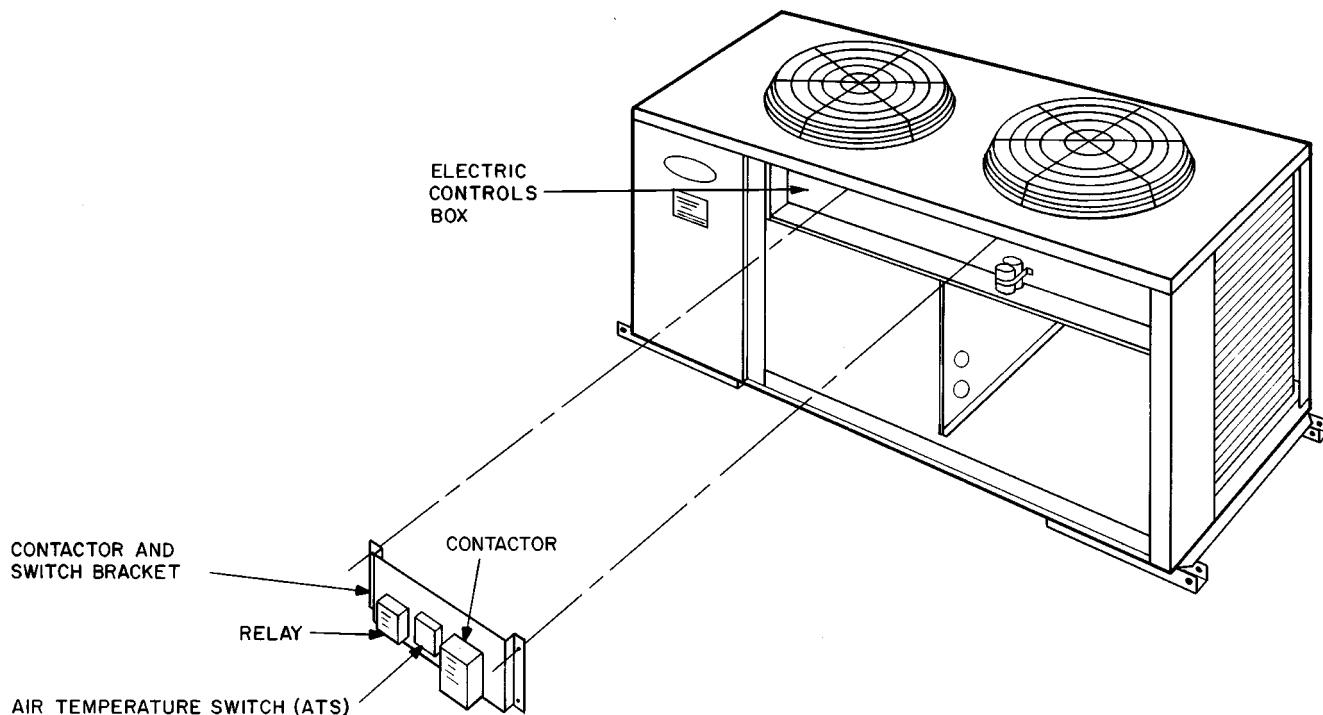

Fig. 5 — Fan Control Package for 09DE016
3. Mount temperature actuated switch, relay and contactor on bracket as shown in Fig. 5 using the #6B — 1/2 screws supplied with the package.
4. Mount the bracket assembly on the electric control box panel as shown in Fig. 5 (indicated by dotted lines), using the #10AB — 1/2 screws supplied for fasteners. Position bracket assembly on panel until matching holes are located.